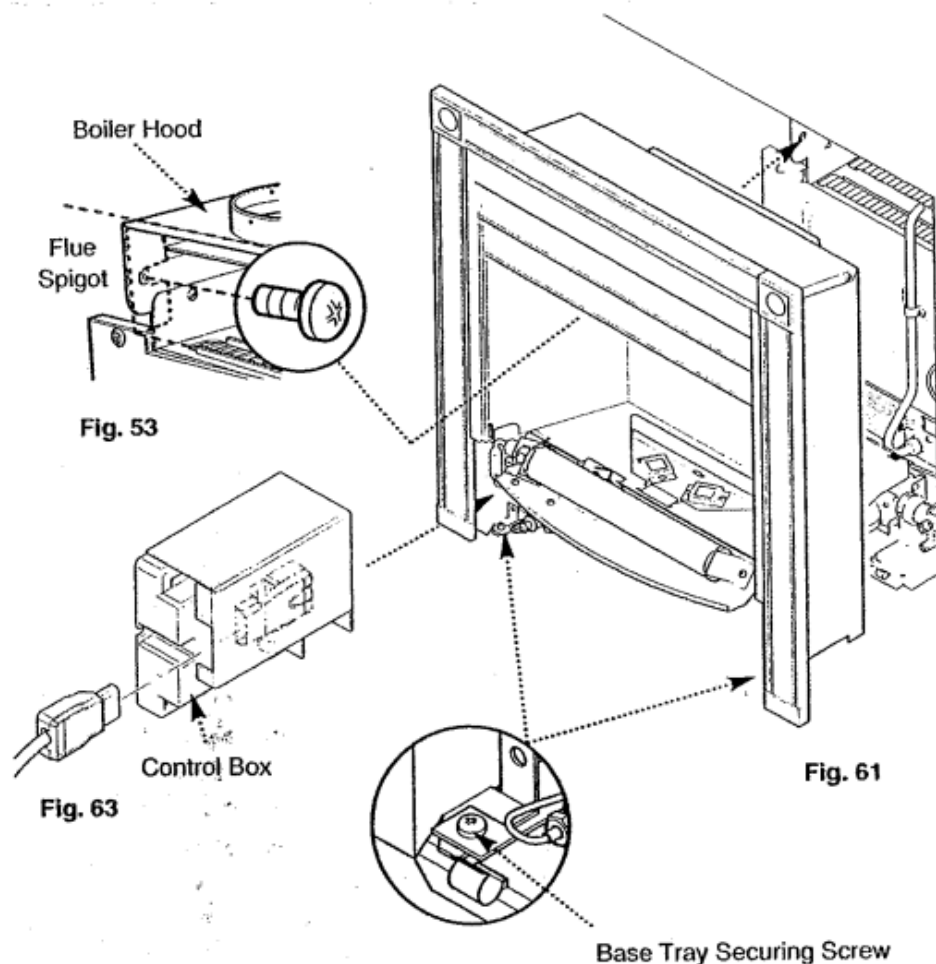

Fig. 61,62,63
9. Remove the two screws retaining the sides of the fire combustion box to the fire base tray (Fig. 61).
12. Slide the fire combustion box forward to disengage it from the flue spigot and lift away (Fig. 61) taking care not to snag any electrical wiring.